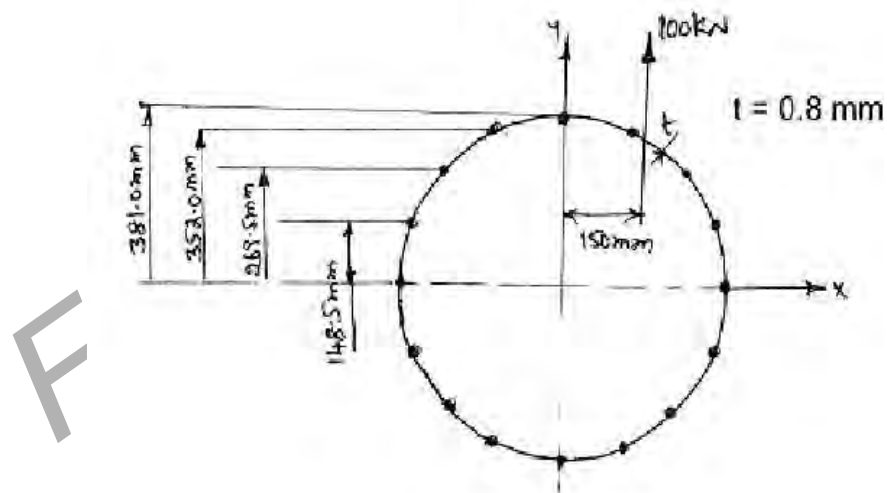

Figure 6
6. The fuselage of light weight passenger carrying aircraft has the circular cross section. The cross-sectional area of each stringer is 100 mm^2 is subjected to a vertical load of 100 kN applied at a distance of 150 mm from the vertical axis of symmetry as shown in figure 6. Calculate the distribution shear flow in the section. [16]